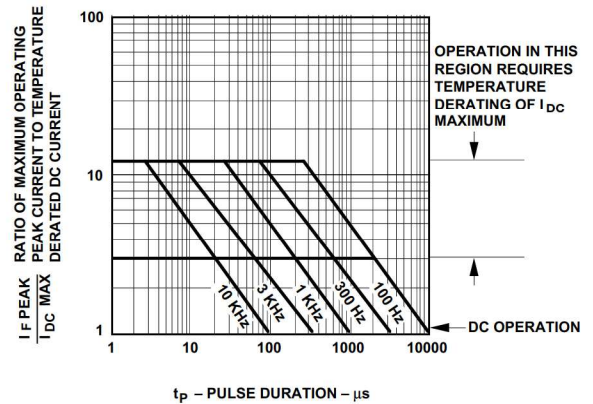

Figure 11. Maximum Tolerable Peak Current vs. Pulse Duration - Green.
5. See Figure 11 to establish pulsed conditions.